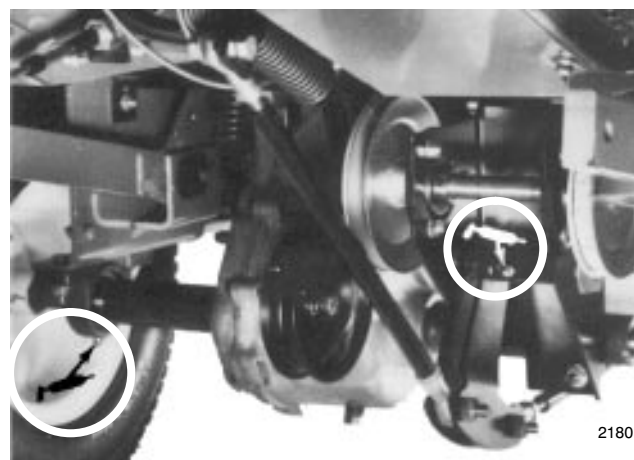

Figure 20
3. Lubricate the axle bearings (Fig. 20).